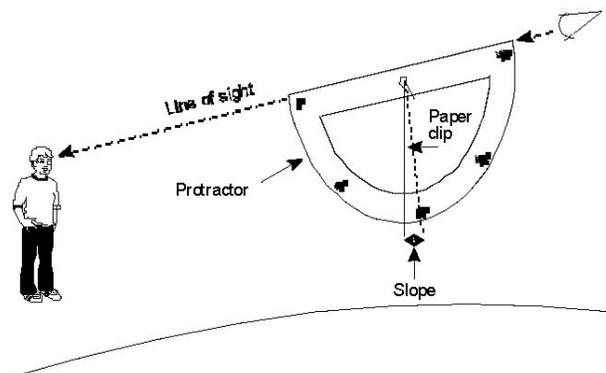

Figure 4. Estimate the slope of a line to a point at eye level above the sample location.
6.3.1 Insert the wire into the hole in the protractor such that the wire hangs freely when the protractor is held up on its edge (when the flat edge of the protractor is horizontal, the hanging wire should cross the arc of the protractor at the 90° mark--see Figure 4 below).